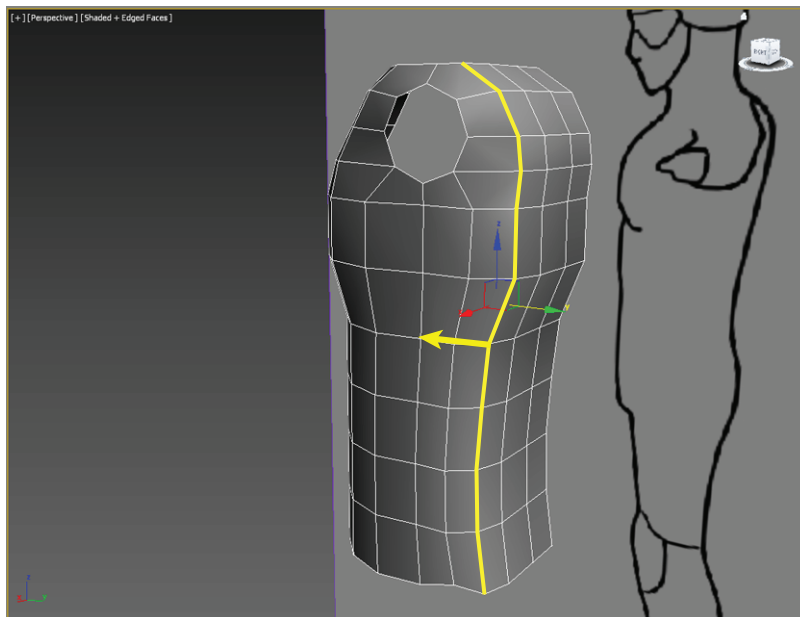

FIGURE 7.18 Move the selected edge toward the front of the torso to round out the back.
32. Go into Edge mode and select the edge running vertically on the right side of the model's back, as shown in Figure 7.18, and move it toward the armhole. This action will make the back rounder.